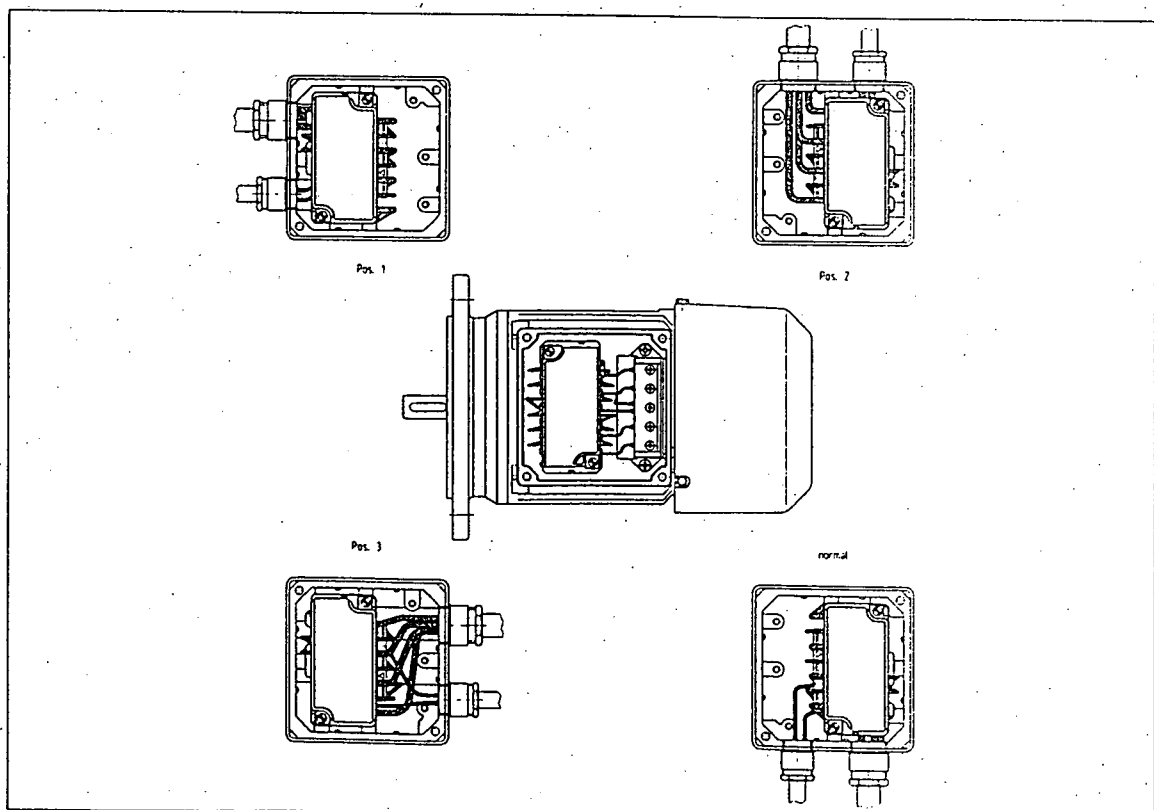

Fig. 12
2. Screw the upper section of the connector into the housing cover in accordance with the mounting position (Fig. 12).